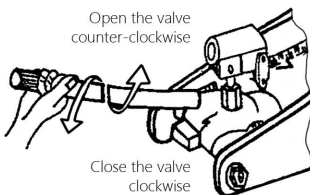

Fig. 1
- Open the control valve (37), see Fig. 1
- Insert the lever into the spout (16) at the front surface of the jack's board.
- With the point of the jack's grip close the control valve, having screwed it as far as it would go clockwise (Fig. 1).
- Insert the jack's grip into the pump's female. Pumping it, raise the car till it suits you (Fig. 1).
- Slowly rotate the grip counter-clockwise as far as the car starts to descend. (see Fig. 1).